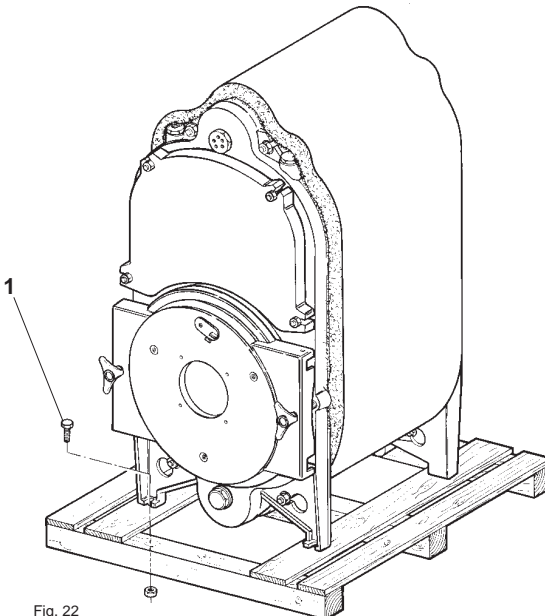

Fig. 22
4.14 (Fig. 22) The boiler unit can also be supplied already assembled. It will be sent straight from the factory on a pallet. Remove bolts 1 fixing the boiler to the pallet and place the boiler itself in its final installation position. Now proceed by mounting the various panels.